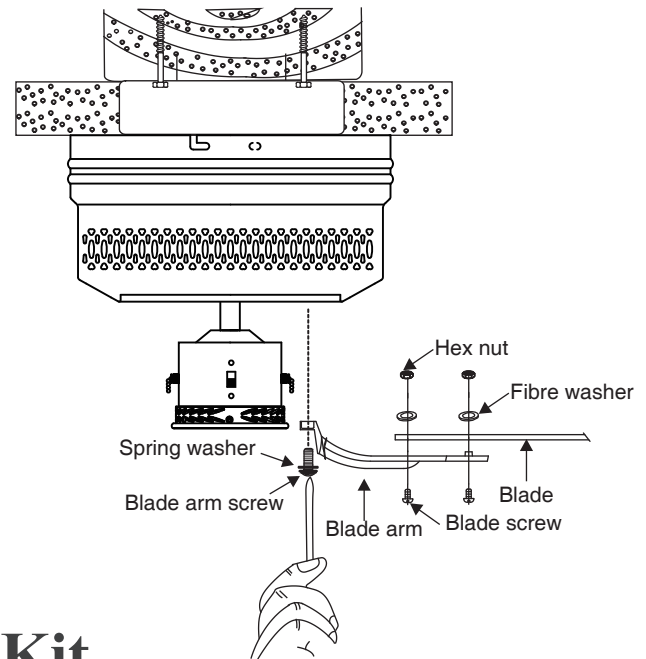

Fig. 9
1. Attach the blade to the blade arm using the blade screws, fibre washers and hex nuts as shown in Fig. 9.
3. Fasten one blade assembly to the motor using the two blade arm screws and spring washers supplied (Fig. 9).